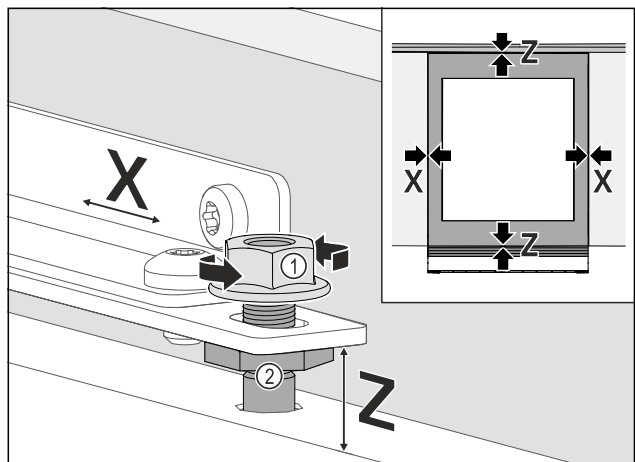

Fig. 94
- ▶ Align the unit door laterally: Loosen the lock nut Fig. 94 (1), move the unit door in X direction.
- ▶ Tighten the lock nuts Fig. 94 (1).
- ▶ Align the height **Z** and lateral inclination of the unit door: Set the adjustment bolt *Fig. 94 (2)*.